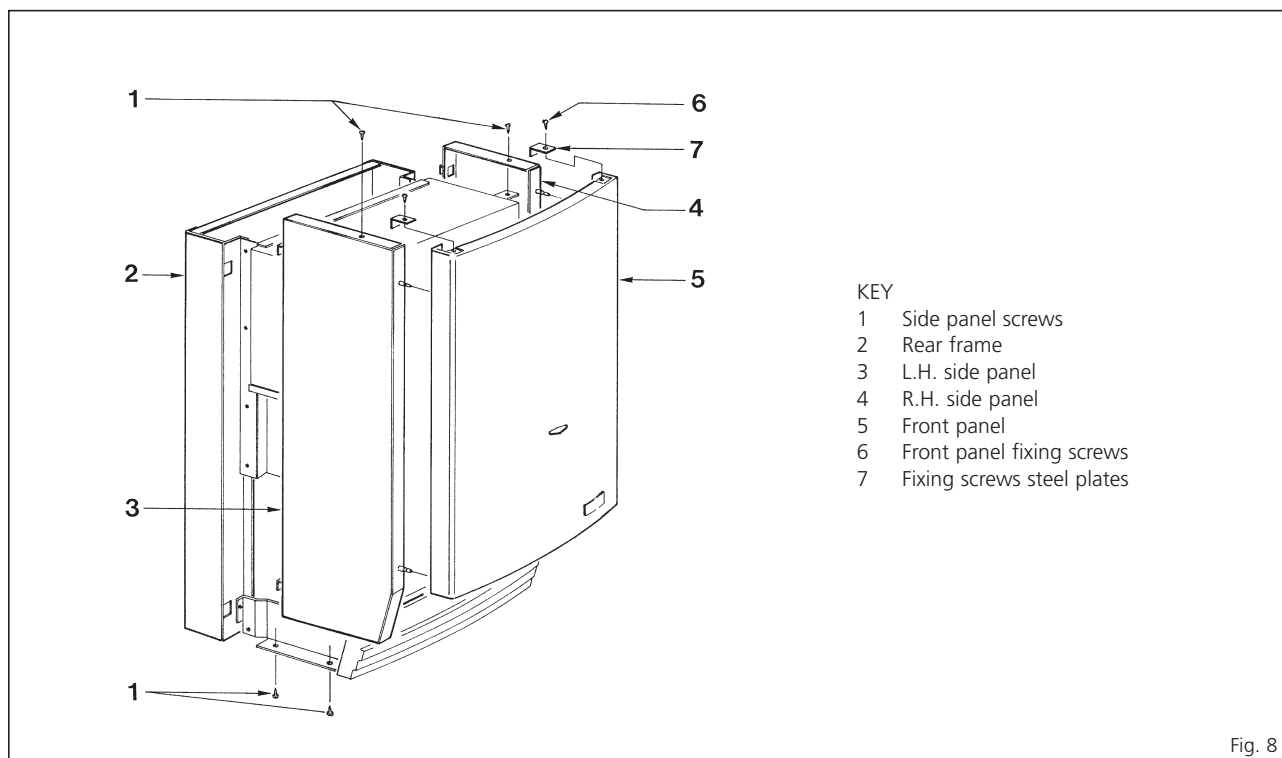
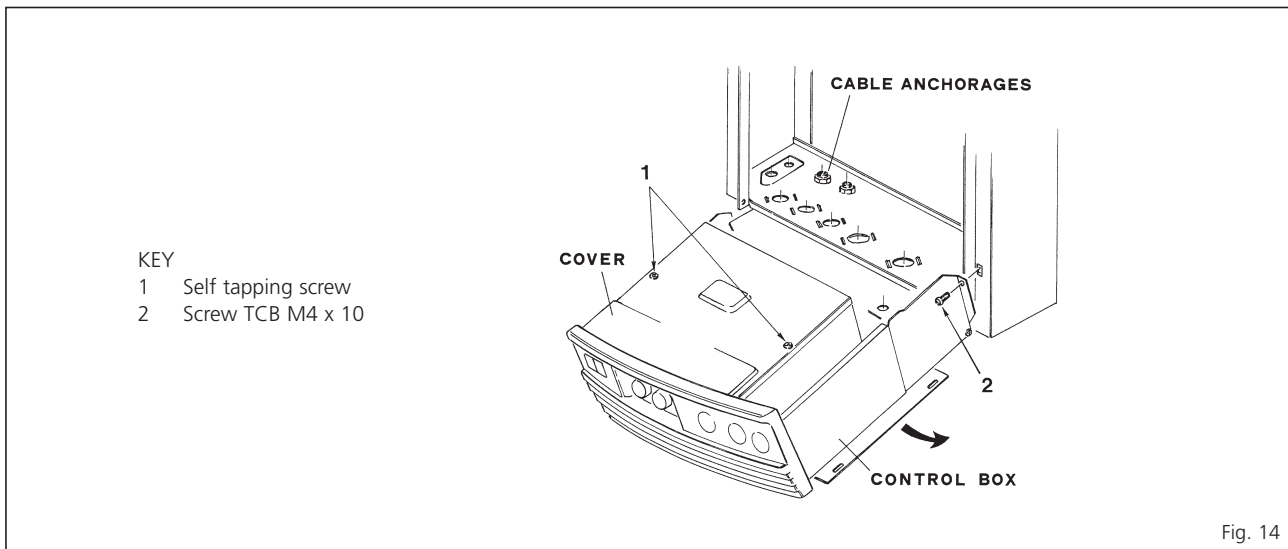

Fig. 8
Fig. 14
- Remove the outer casing as follows with reference to fig. 8:
- remove the front panel fixing screw (6);
- remove the front panel (5) by pulling forwards, starting at the top corners;
- unscrew the fixing screws (1) securing each side panel (3) and (4) (two each), and remove the panels by sliding upwards to release the supporting hooks.
- Screw in the wall mounting bracket adjusting screws until the appliance is secure and vertical, then pivot the control box downwards by removing the two rear screws as shown in fig. 14 and fit the two lower fixing screws to prevent any further movement using a long screwdriver through the clearance holes provided. Pivot the control box back into position and resecure with the two screws.
- The appliance safety valve is located towards the R.H.S. of the boiler and the discharge pipe is supplied loose. Remove the two screws TCB M4 x 10 (2 fig. 14) and lower the control box to improve access.